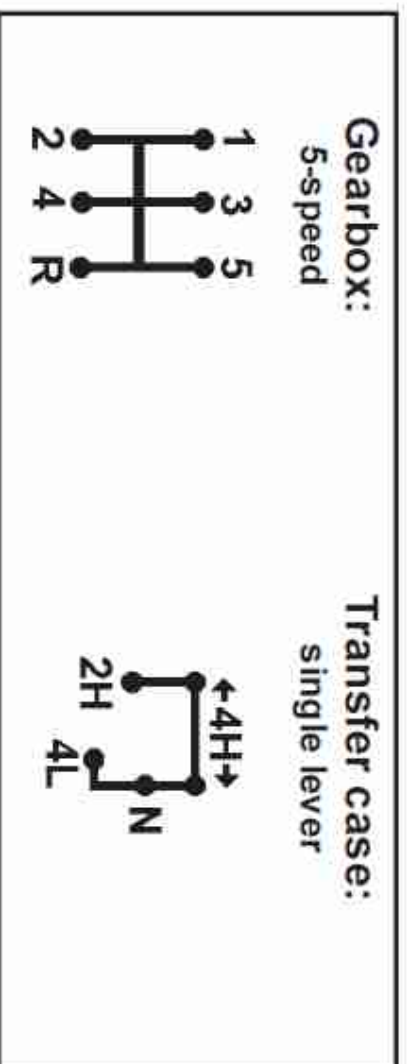

Fig. 3.4. Positions of sticks of the gearbox and the transfer case:
- 17 — front axle and speed reduction gearing switch-on lever. (For lever positions, see Fig. 3.4);
- 19 — shift lever (for lever positions, see the shift lever knob and Fig. 3.4).